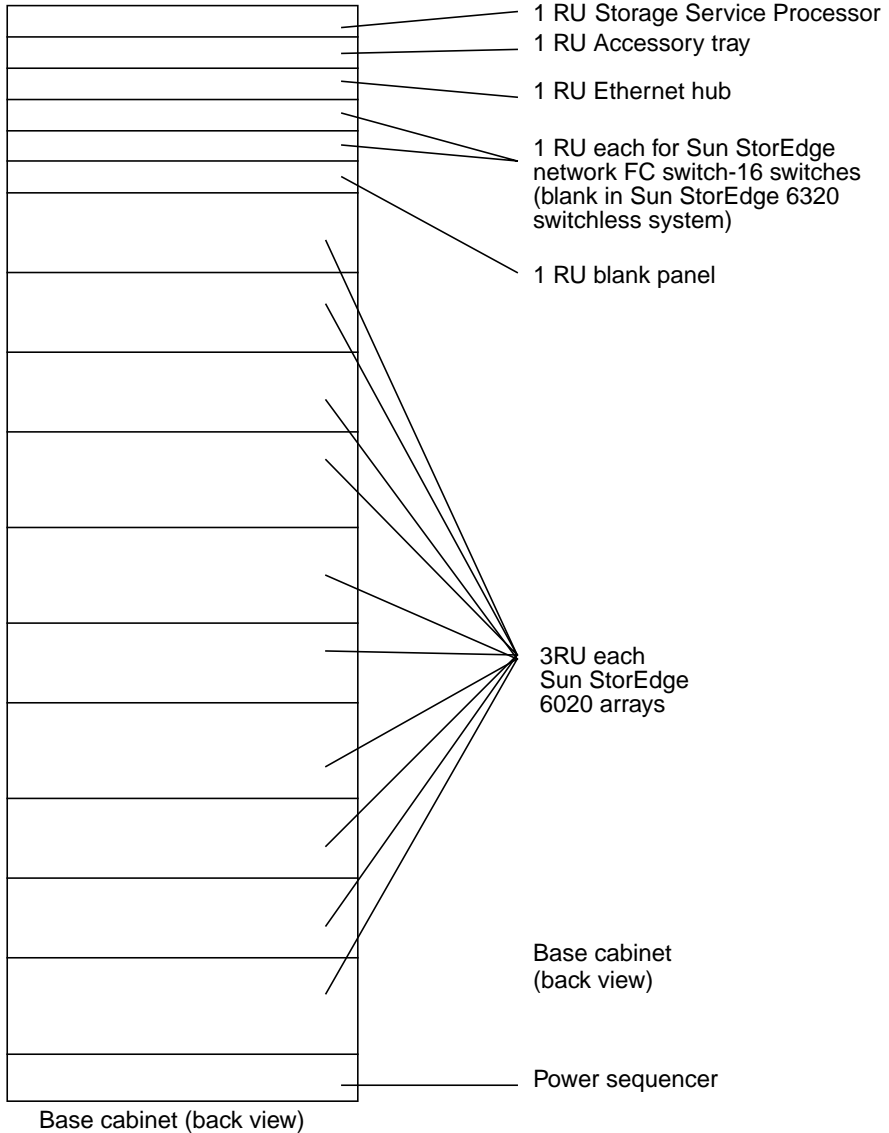
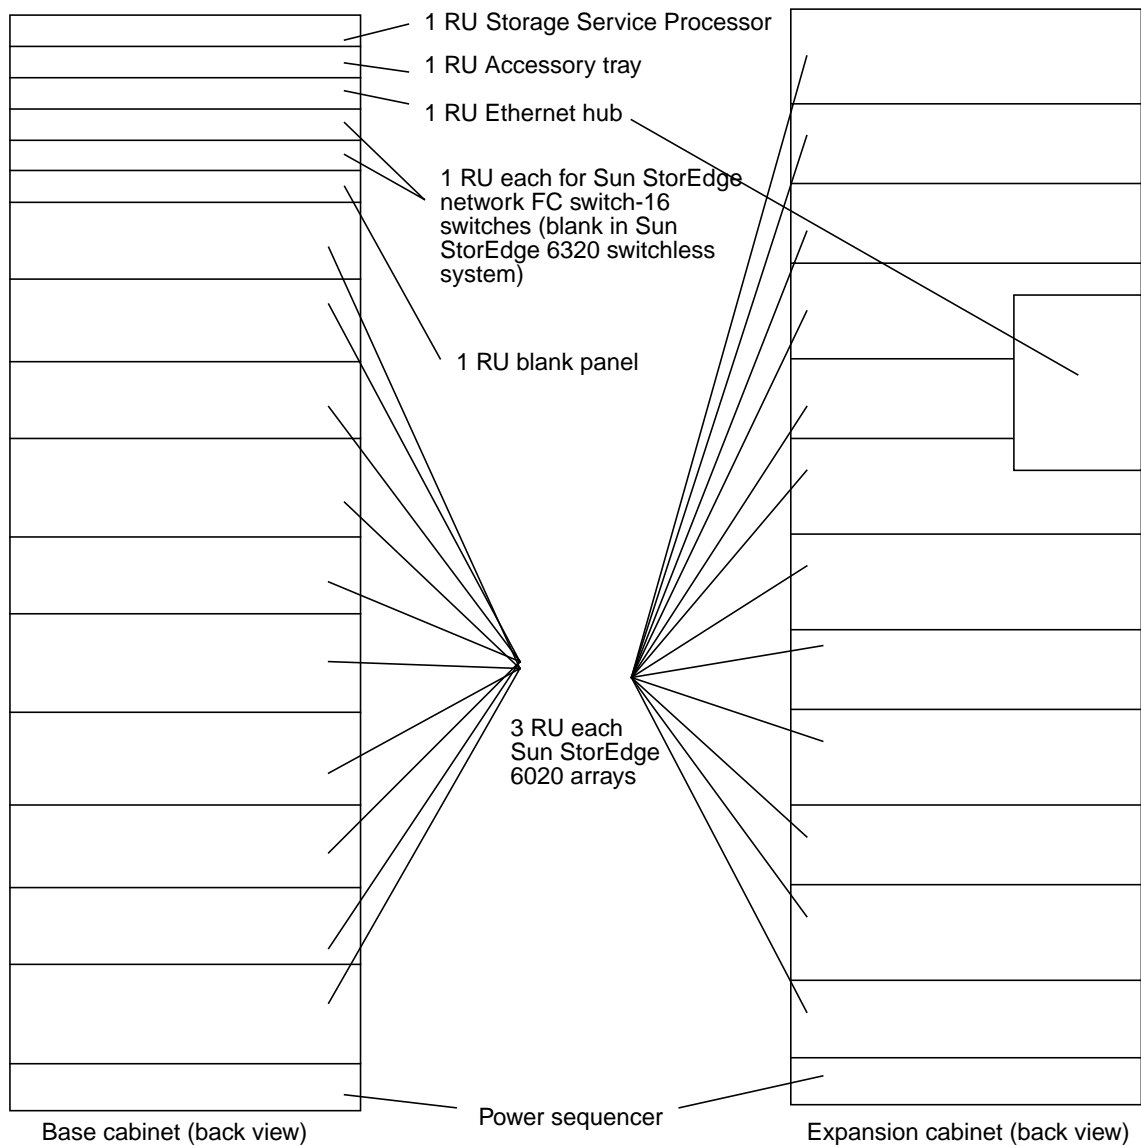

FIGURE 4-3 Sun StorEdge 6320 System FRU Placement
FIGURE 4-4 Sun StorEdge 6320 System FRU Locations
See FIGURE 4-3 and FIGURE 4-4 for the naming conventions and the placement of FRUs in the system.
The locations where FRUs can be mounted in the Sun StorEdge 6320 storage system are shown in FIGURE 4-3 and FIGURE 4-4. The locations are defined by the number of rack units (RU) occupied by a FRU or blank panel.